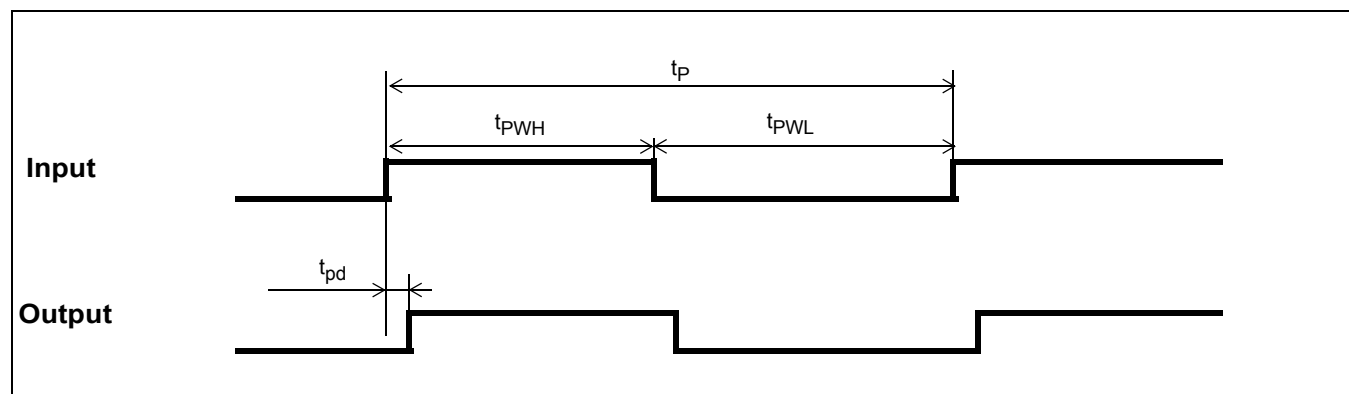

Figure 21 - Input To Output Timing
**AC Electrical Characteristics\* - Inputs and Outputs (see Figure 21) - for 3.3 V supply.**
**AC Electrical Characteristics\* - Inputs and Outputs (see Figure 21) - for 2.5 V supply.**